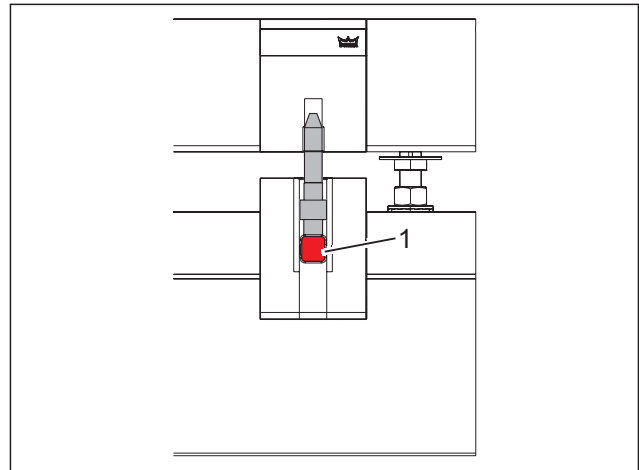

Fig. 10 Panel locked
- **The upper slide bolt is locked and the status display (Fig. 10/1) is red.**